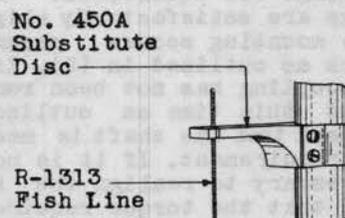

Fig. 7 - Method of Checking for Location of Bearings
(8) Check the position of the discs immediately above and below each bearing over the entire length of the shaft in relation to the fish line in two positions, approximately 90° apart. There shall be a perceptible clearance between the periphery of these discs and the fish line not to exceed 1/32". All discs must clear the fish line. If the clearance exceeds 1/32" or if the fishline touches the driving disc of the top sequence switch position, it is an indication that the bearing or bearings located above the top sequence switch position are not in satisfactory adjustment and should be realigned. If necessary rotate the shaft to a position in which these discs clear the line and at the same time relocate the cord holding details. To check a bearing where there is no driving disc adjacent to it attach the No. 450A substitute disc to the shaft above the bearing as shown in Fig. 7.